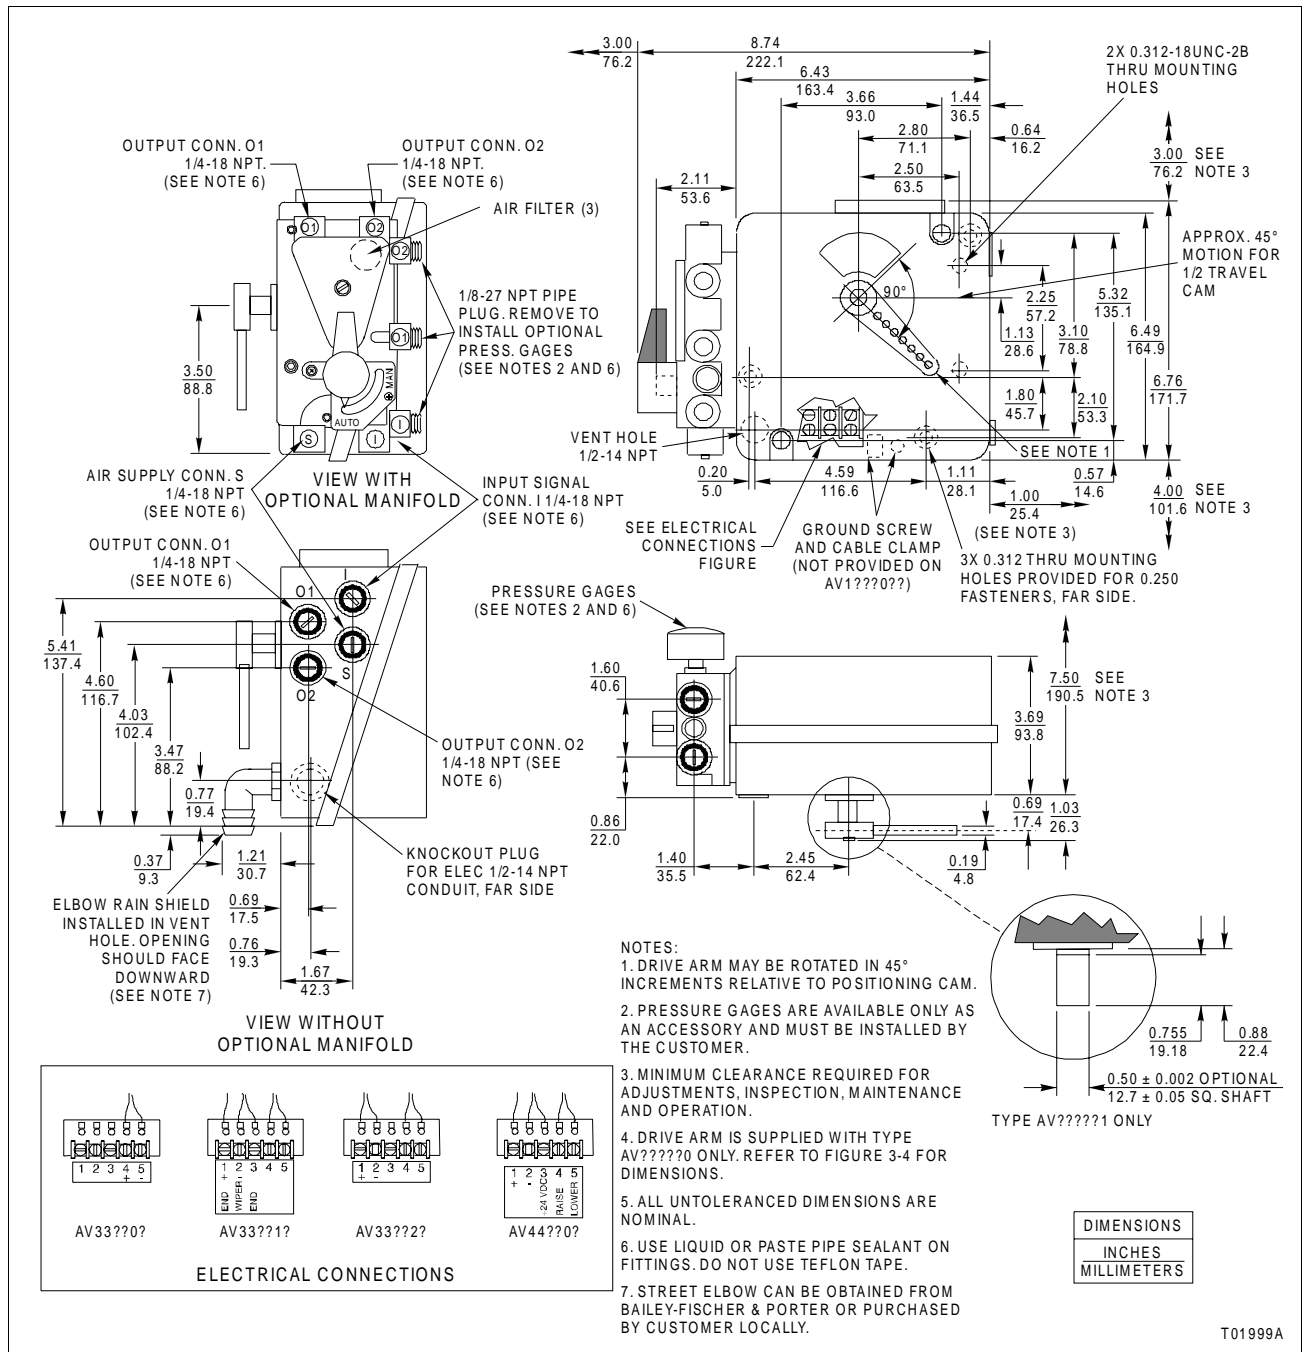
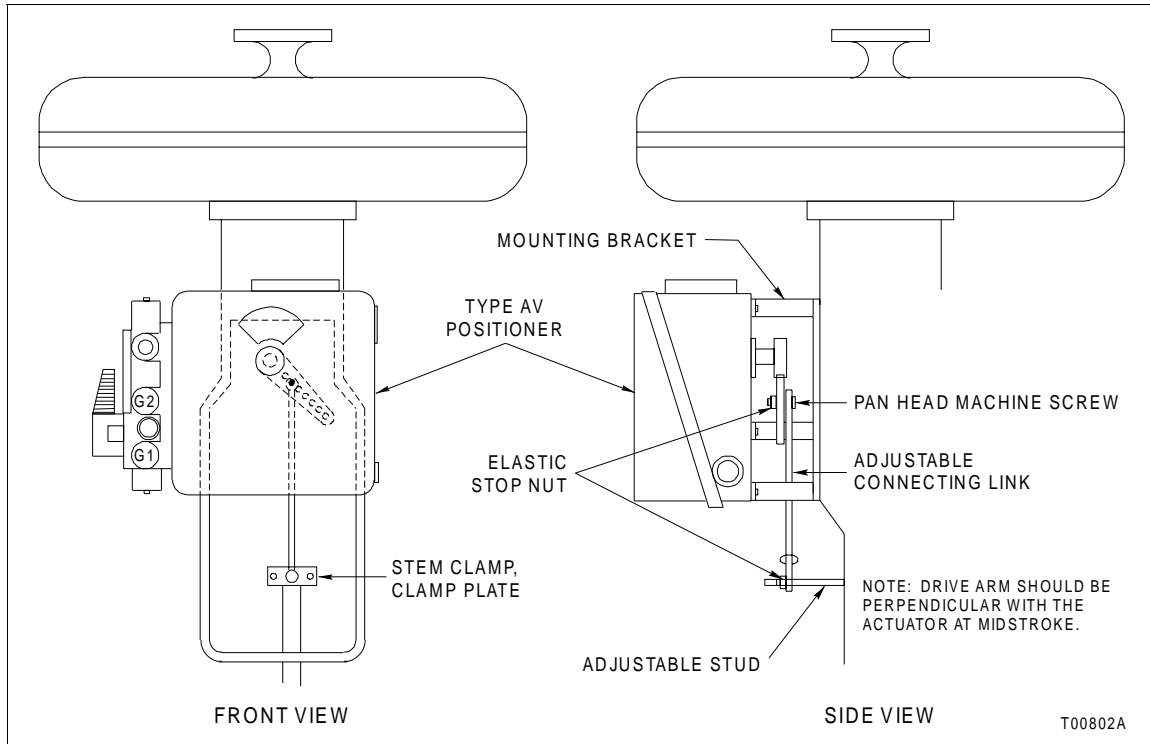
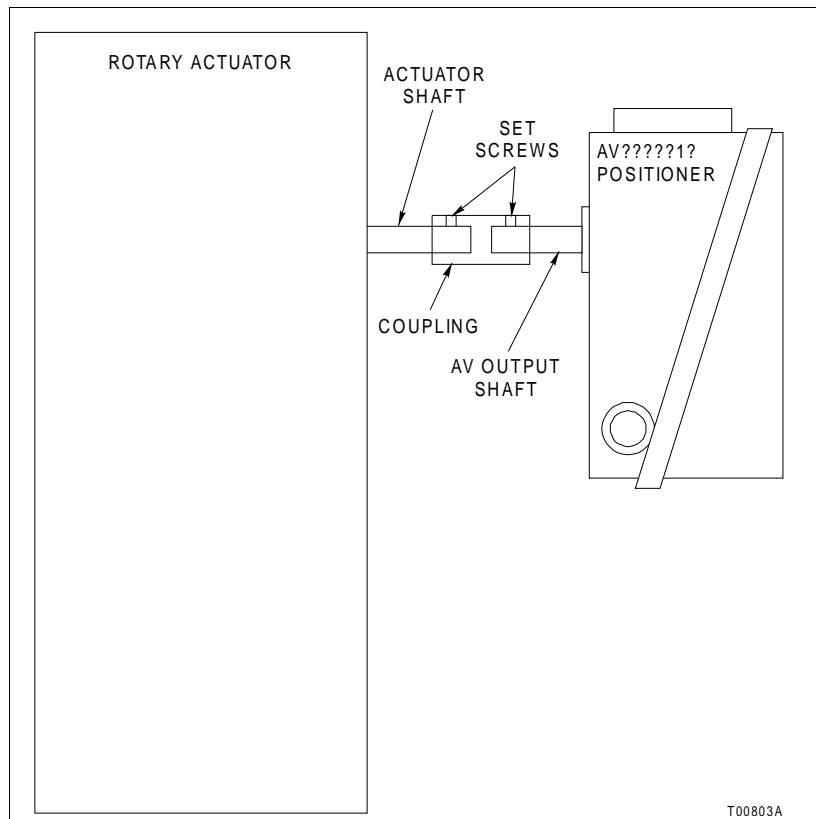

Figure 3-1. External and Mounting Dimensions for the Type AV Positioner
Figure 3-2. Typical Positioner Mounting Using Linkage
Figure 3-3. Typical Positioner Mounting Using Direct Coupling
The Type AV3 and Type AV4 positioners conform to NEMA 3R when a ½-14 NPT street elbow (Fig. 3-1) is installed into the vent hole on the housing. The elbow prevents water or other liquid from entering the enclosure. The position of the elbow is related to the mounting plane of the positioner in its service location. The elbow must be positioned to face downward. The enclosure also meets corrosion resistance requirements for NEMA 4X classification (NEMA 250).
1. **Access to the internal positioner housing** - the mounting location should provide enough room to remove the cover in order to perform calibration and repair and replacement procedures inside the positioner. Refer to Figure 3-1 for positioner dimensions.
The Type AV positioner can be used with double-acting or single-acting actuators. Mounting and external dimensions are shown in Figure 3-1. Figure 3-2 shows a typical mounting arrangement using a mounting kit (part number 5327321_□). Refer to Figure 9-2 for an exploded view and complete parts list of kit. If using the positioner with a rotary actuator, the positioner can be directly connected to the actuator, as shown in Figure 3-3.
NOTE: Route the wiring inside the positioner so it does not become entangled with moving parts. A cable clamp (Fig. 3-1 or 4-1) is provided inside the positioner so entanglement can be avoided.